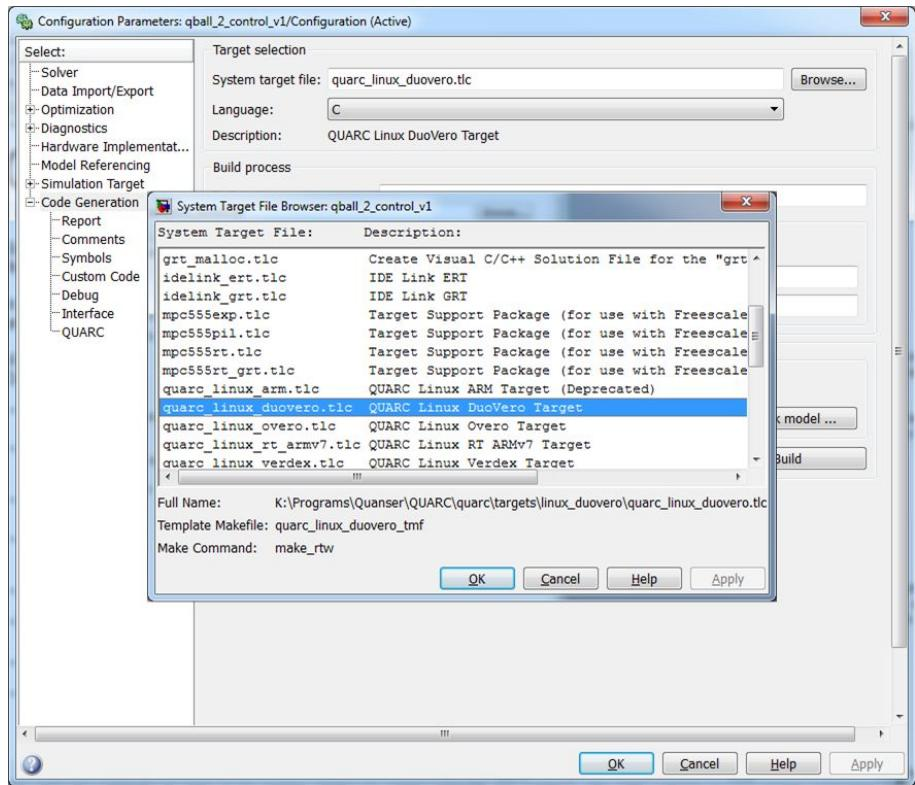

Figure 4.12: QUARC® Option Menu
3. The **System target file under Code Generation** should be **quarc_linux_duovero_2016.tlc**. Browse through the system target list to locate the proper file if necessary (Figure 4.12).